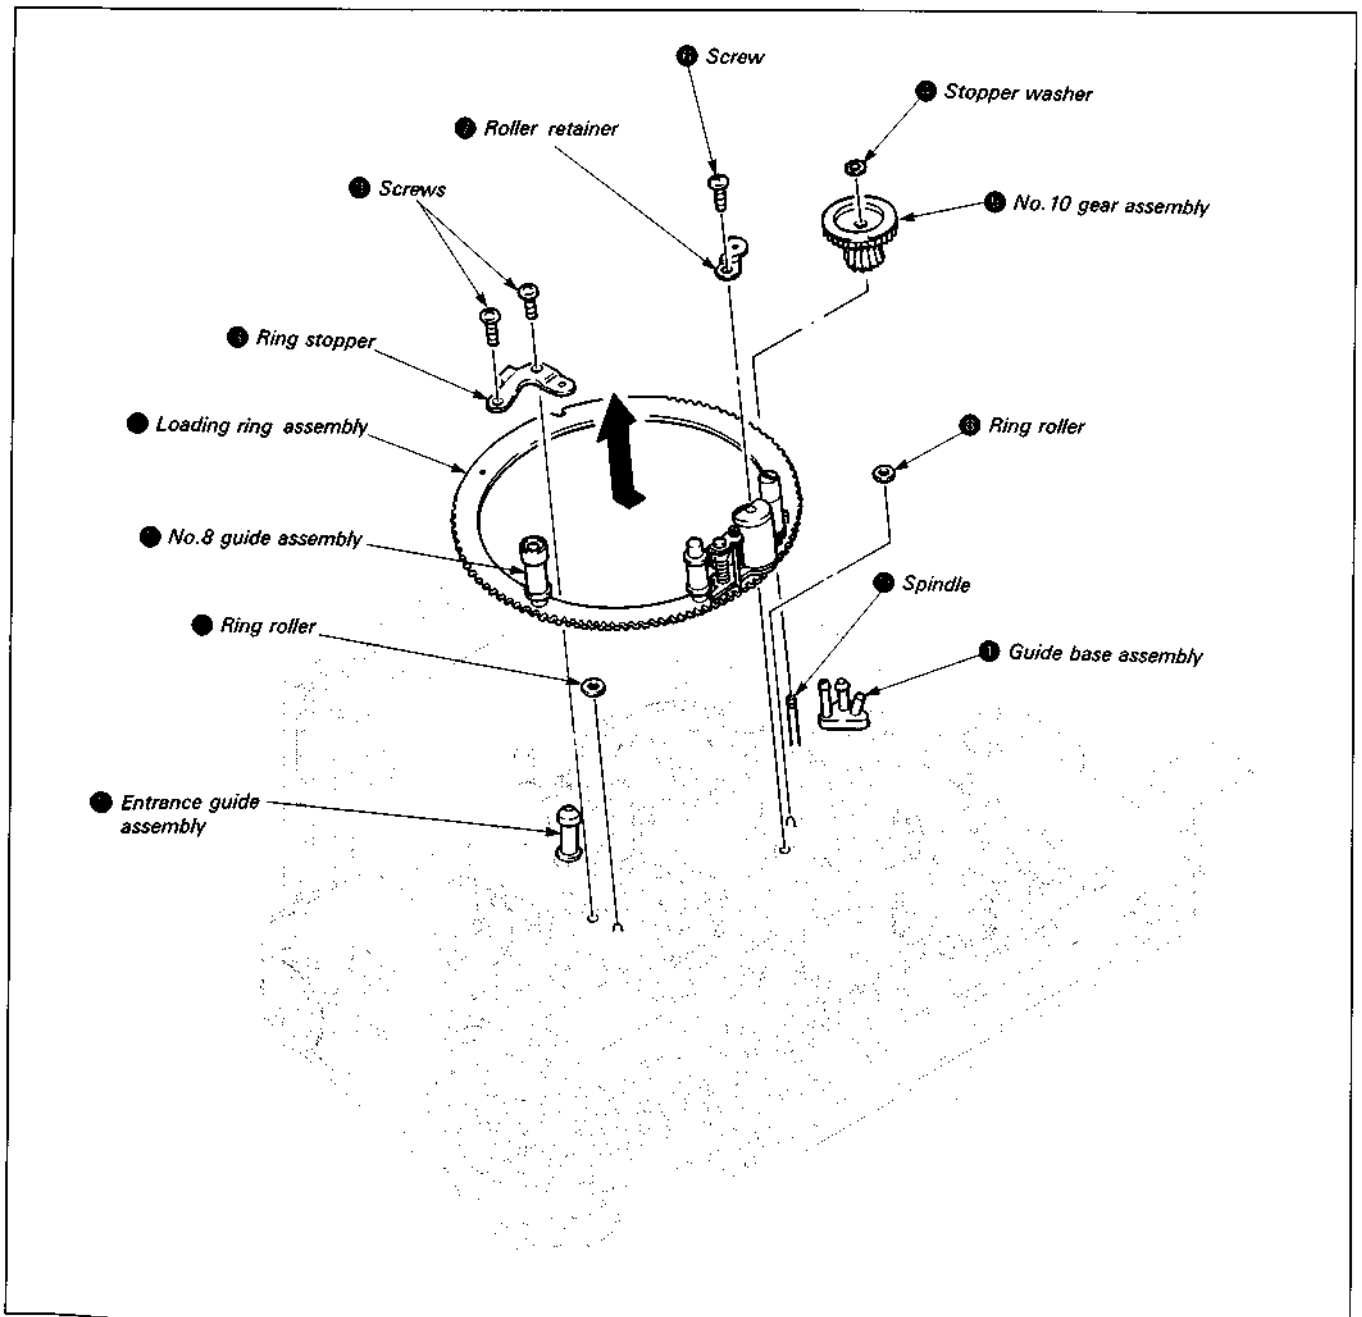
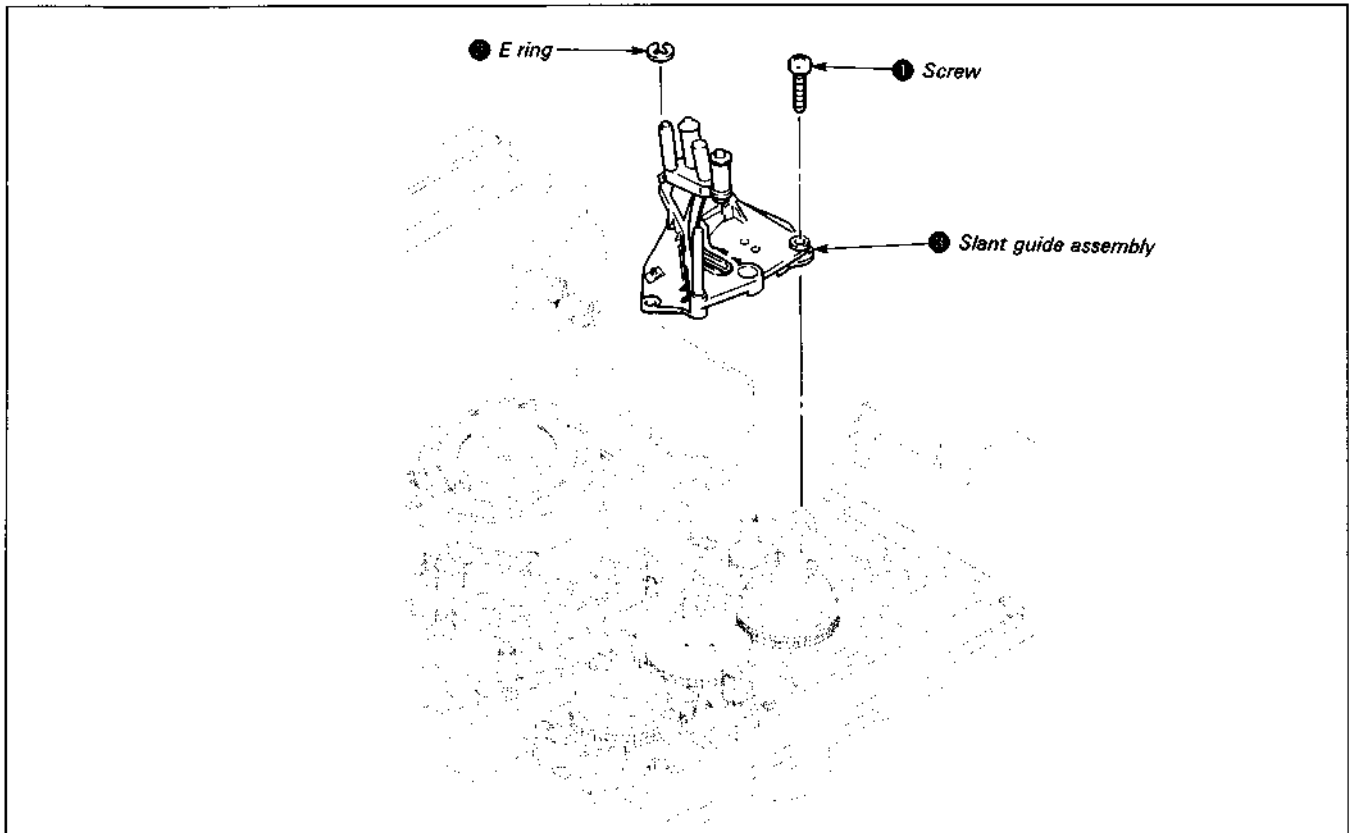

Fig. 7-12.
Fig. 7-26.
7-3-7. Loading Ring Assembly (See Fig. 7-12, 13.)
- 3) Operate the mode selector, and move the guide base assembly ① until just before lock, and the entrance guide assembly ② until just before lock where the ring stopper ③ screw is visible. (Do not move loading ring assembly ④.)
- 4) Remove the stopper washer ⑤ and remove No. 10 gear assembly ⑥.
- 5) Remove screw ⑦ and the roller retainer ⑧ and ring roller ⑨.
- 6) Remove the two screws ⑩ and the ring stopper ⑪ and ring roller ⑫.
- 7) Remove the loading ring assembly ⑬ as shown by arrow. (See Fig. 7-12.)
- 4) Place a half drop of oil on the spindle ●. (See Fig. 7-12.)
- 8) Set to **LOADING TOP** mode. (See Fig. 7-12.)
- 1) Remove the loading ring assembly as described in 7-3-7., 1. Removal. (See Fig. 7-12.)
- 6) Mount the loading ring assembly according to 7-3-7., 2. Mounting. (See Fig. 7-12, 7-13)
7-3-9. Slant Guide Assembly (See Fig. 7-26~28.)
- 1) Remove the loading ring assembly according to 7-3-7., 1. Removal. (See Fig. 7-12.)
- 2) Remove screw ❶ and E ring ❷.
- 3) Remove the slant guide assembly ❸. (See Fig. 7-26.)
- 3) Mount the E ring ❷ and tighten screw ❶. (See Fig. 7-26.)
- 5) Mount the loading ring assembly according to 7-3-7., 2. Mounting (See Fig. 7-12, 7-13.)